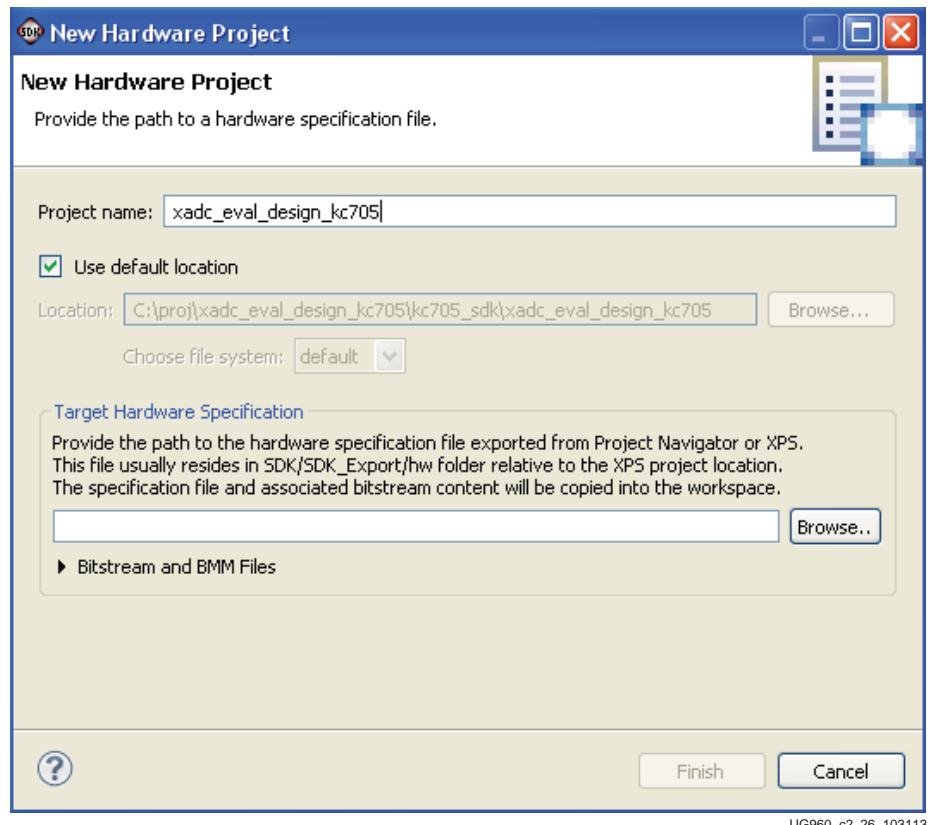

Figure 2-26: Selecting Hardware Platform
6. Create **New Hardware Project**. Browse to the target hardware specification (see Figure 2-26).